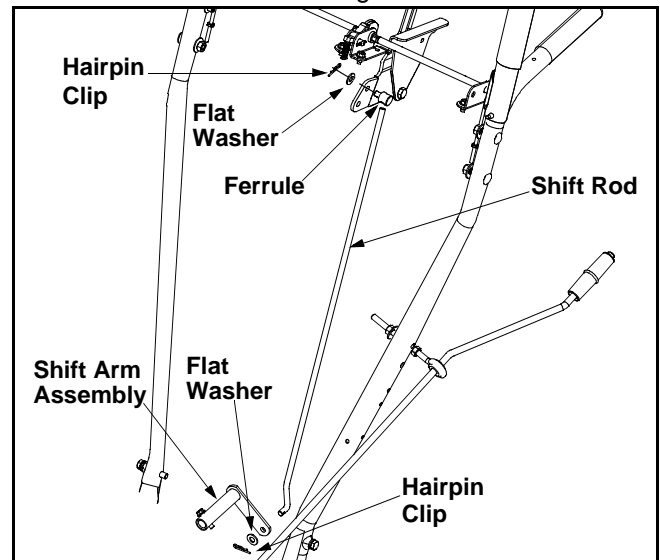

Figure 16
- Remove the hairpin clip and slide the shift rod connector up, to separate the upper shift rod from the lower shift rod. See Figure 16.